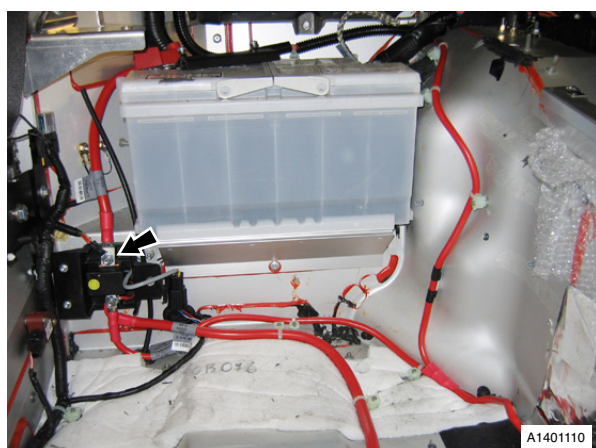

Fig. 2
15. Remove nut securing battery cable to BDS, release cable from BDS (see Fig. 2).